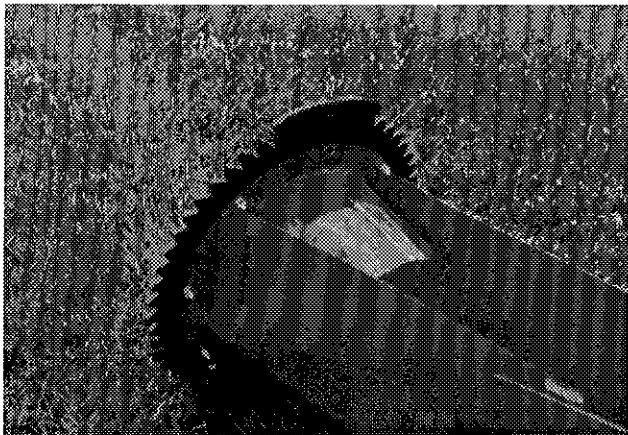

Figure 28
- 1) Bolt the 37 tooth ring-gear onto chute flange with plain segment lined up with chute discharge opening (Fig. 28).